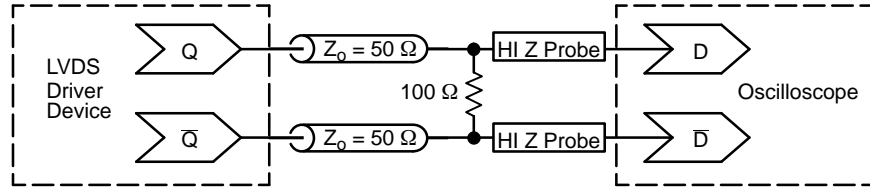

Figure 17. Typical LVDS Termination for Output Driver and Device Evaluation
5. LVDS outputs require 100 Ω receiver termination resistor between differential pair. See Figure 17.
12. Measured by forcing $V_{INPPmin}$ with 50% duty cycle clock source and $V_{CC} - 1400 \text{ mV}$ offset. All loading with an external $R_L = 100 \Omega$. Input edge rates 150 ps (20%–80%). See Figure 17.